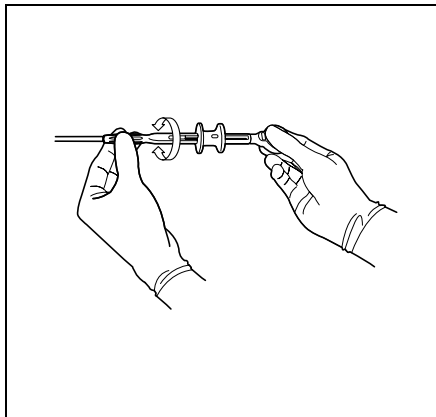

Figure 3.11
3. Hold only the ring (yellow) and rotate the rotation grip to orient the clip so that it may be applied to the tissue (see Figure 3.11).